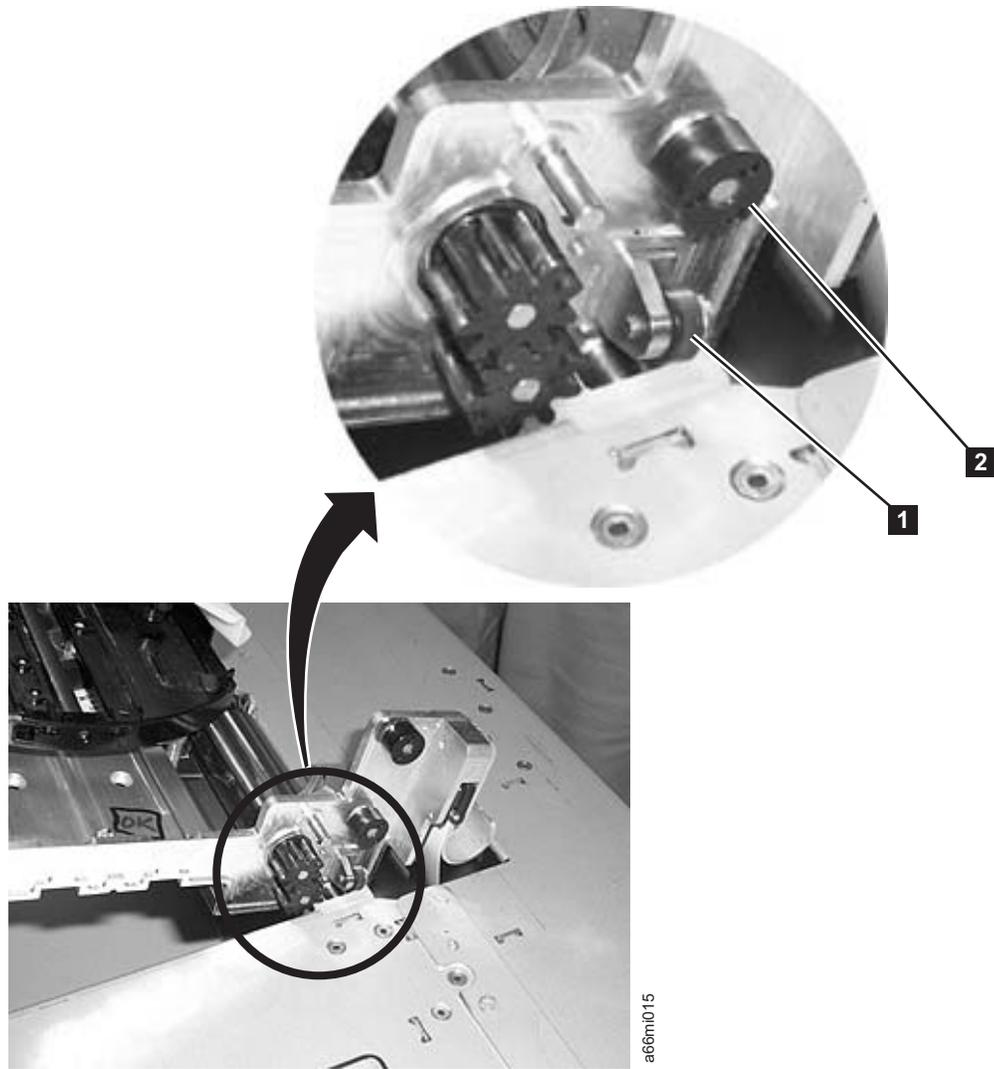
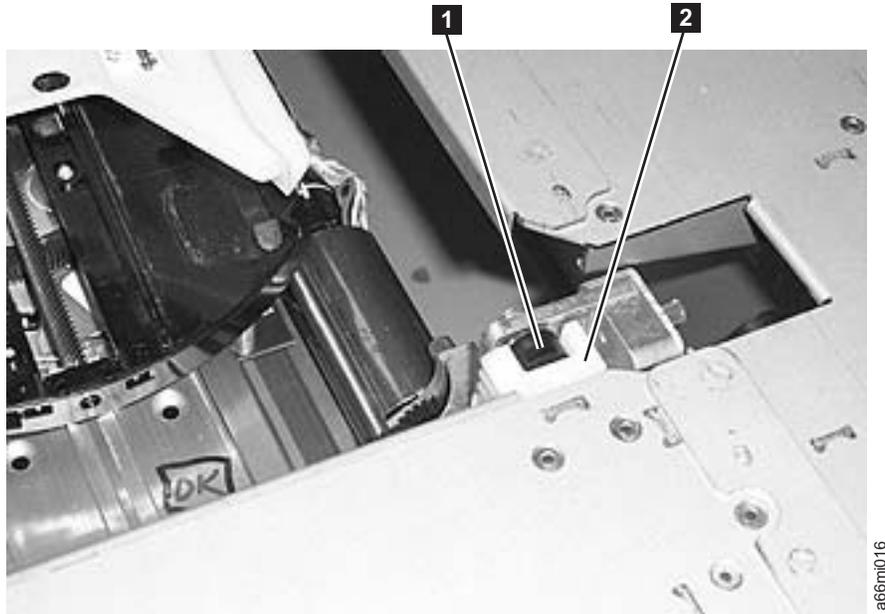

Figure 8-36. Guide rollers on Y-axis/Picker Assembly
Figure 8-37. Y-axis/Picker Assembly rollers inserted in gear rack track
6. Lower the Y-axis/Picker Assembly by tilting its gears at a 45° angle onto the top of the front and rear gear racks (see Figure 8-36 on page 8-41 and Figure 8-37 on page 8-42). **BE VERY CAREFUL TO START BOTH Y-AXIS/PICKER ASSEMBLY GEARS TOGETHER TO ENSURE THE Y-AXIS/PICKER ASSEMBLY IS LEVEL.** After lowering the Y-axis/Picker Assembly a few teeth, verify that the Y-axis/Picker Assembly is level with the library chassis. If it is not level, remove the Y-axis/Picker Assembly and reinsert.